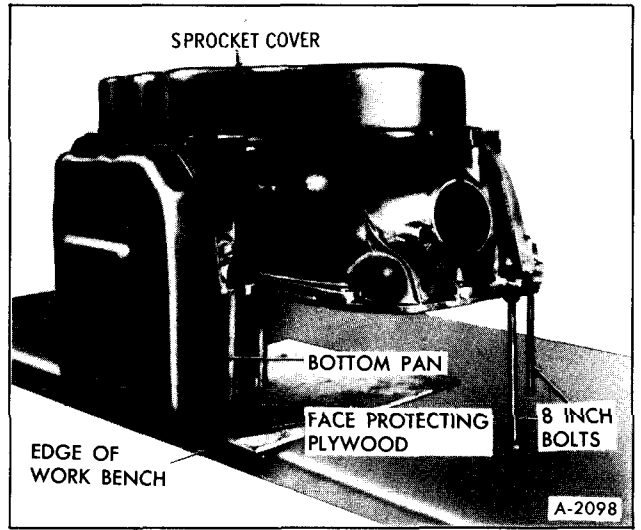

Figure 33—Arrangement of Transmission on Bench
6. Remove stud from output end of case and place a piece of plywood under output end of case, place transmission on work bench with bottom pan facing the outside edge of work bench. (Let pan overhang edge of bench.) Stand transmission on the two eight inch bolts and the output flange end of the transmission case. (figure 33)